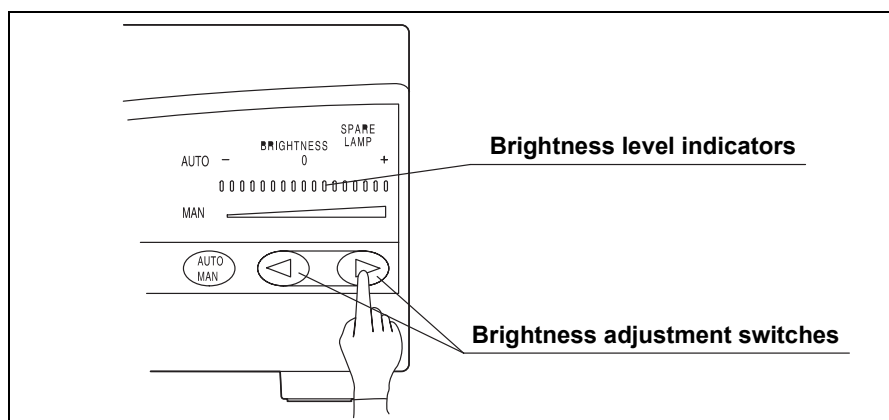

Figure 5.2
2. Press either of the brightness adjustment switches (“◀” or “▶”) to set the brightness to a level suitable for observation. The standard setting is “0” (see Figure 5.2).